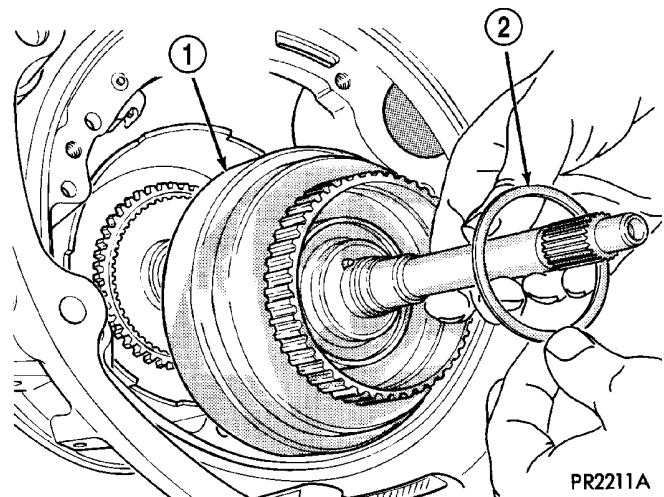

Fig. 55 No. 2 Thrust Washer and Rear Clutch
(13) Install rear clutch assembly (Fig. 55). Ensure that all clutch discs are engaged to front planetary gear splines or transaxle failure will result.
(14) Install #2 thrust washer (Fig. 55).